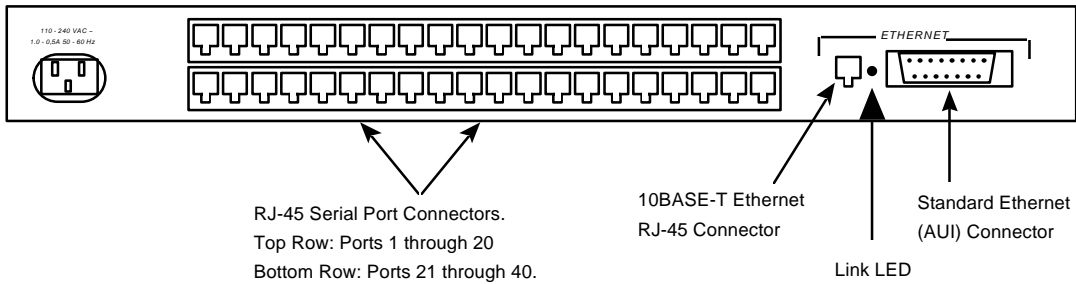
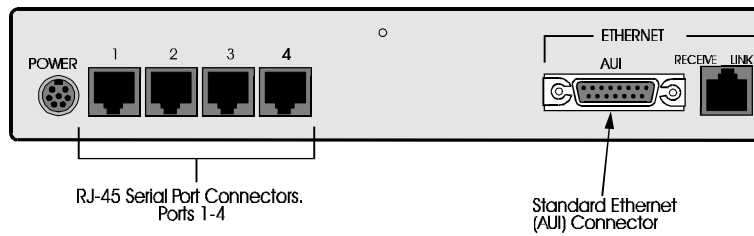
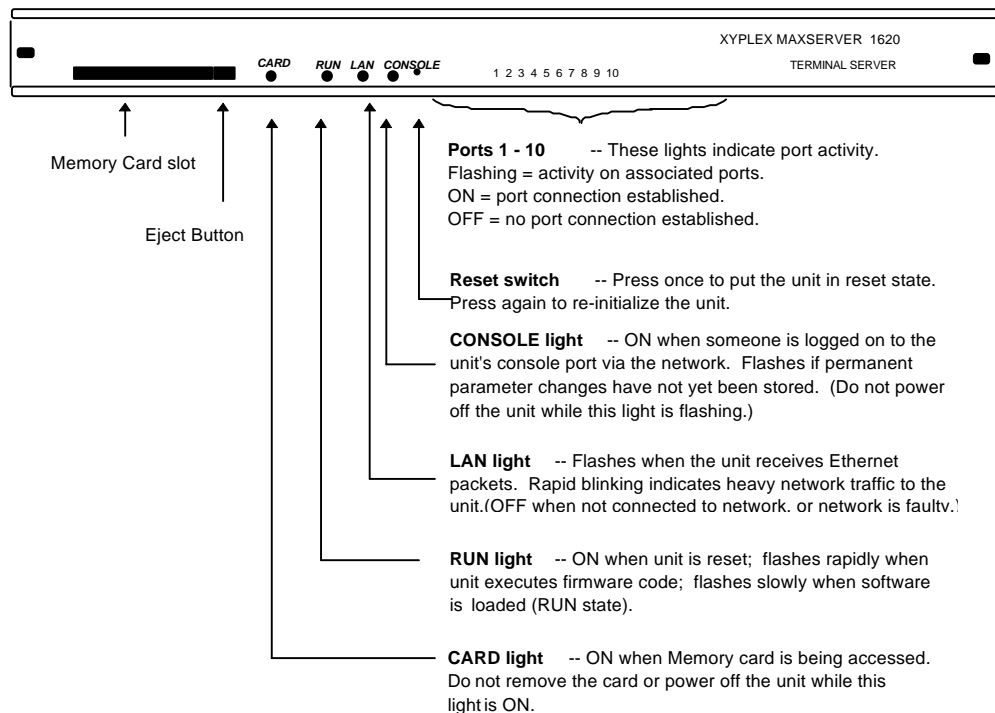
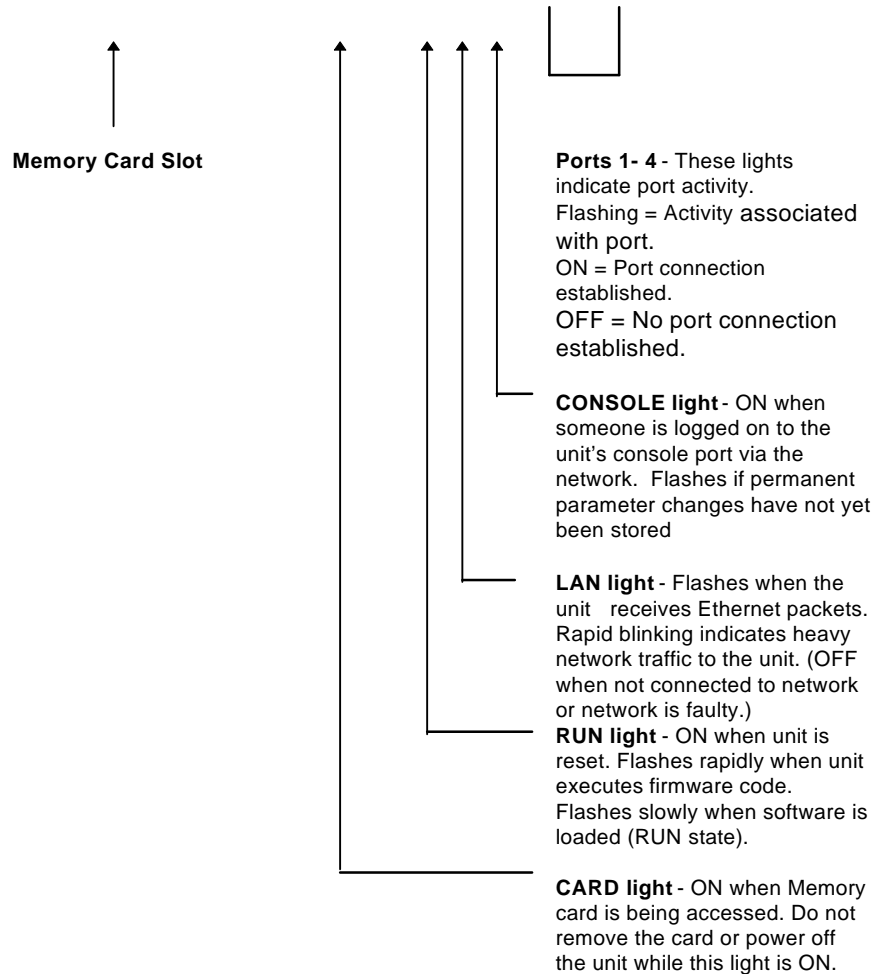

Figure 3 - MAXserver 1620/1640, Rear View
Figure 4 - MAXserver 1604 Rear View
Figure 6 - MAXserver 1620/1640 Front Panel
Figure 7 - MAXserver 1604 Front Panel
- The MAXserver 1640 provides 40 asynchronous serial communication ports with RJ-45 interface s. (See Figure 4 for connector signal assignments.)
Figure 3 and Figure 4 show rear and front views of the MAXserver 1620 and MAXserver 1640. Figure 6 and Figure 7 show rear and front views of the MAXserver 1608A and MAXserver 1604.
Connect either a 10Base-T or AUI Ethernet network cable to the appropriate connector on the rear of the MAXserver (See Figure 3 for 20-port and 40-port models; Figure 4 for 8-port and 4-port models.) Connect only one Ethernet cable to the unit. When powered up, the unit selects the interface on which it detects network activity.
1. Plug the AC line cord (supplied) into the AC power receptacle on the rear of the unit. (See Figure 3 for the location of the power receptacle.)
3. When you apply power, the unit performs a self test of its circuitry and then proceeds to load its software. When the unit has finished loading its software, the RUN light flashes slowly and the LAN light flashes as Ethernet packets are received. (Figure 6 shows the locations of the lights on the front panel.)
The front panels of the MAXserver 1604 and 1608B terminal servers are identical, except for the model designation (see Figure 7). If, after several minutes, the front panel lights do not behave as indicated, refer to Appendix A, Troubleshooting.
The serial port status lights shown in Figure 4 and Figure 6 are used in several ways. During the initialization process, the lights indicate that self-tests are being performed, and if any self-test fails, they indicate an error code. After the unit has been received a load image and parameters, the lights indicate when a port is actively being used. In this case, each light can indicate activity for more than one port. For example, if LED 1 is lit, this can indicate that there is activity on ports 1, 11, 21, or 31. LED 2 indicates activity on ports 2, 12, 22, etc.